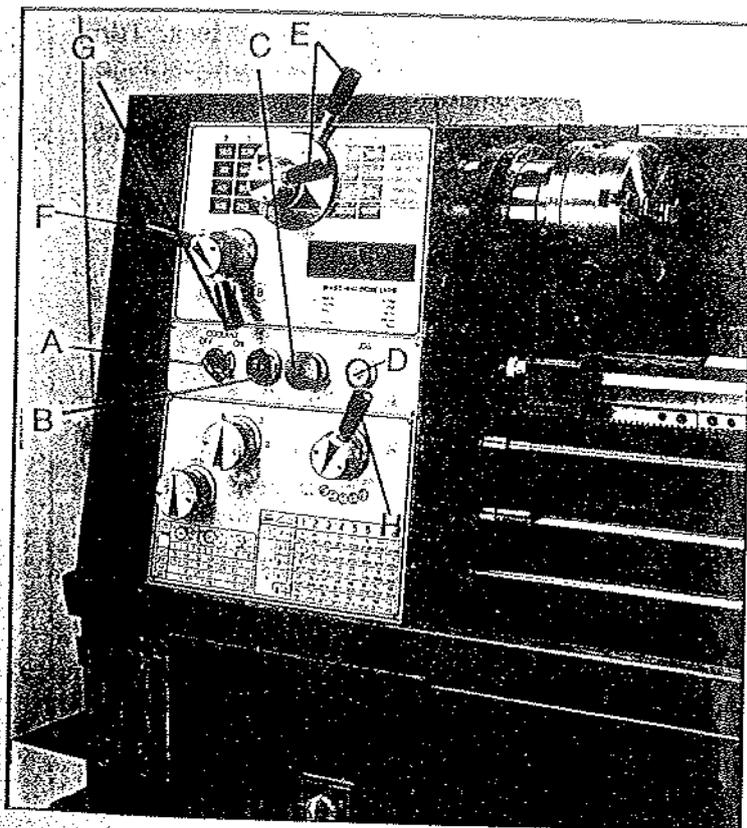

Fig. 10
A. Coolant On-Off Switch (A, Fig. 10) - turns coolant pump on and off.
B. Power Indicator Light (B, Fig. 10) - lit whenever lathe has power.
C. Emergency Stop Switch (C, Fig. 10) - depress to stop all machine functions. (Caution: lathe will still have power). Twist to re-set.
D. Jog Switch (D, Fig. 10) - depress and release to advance spindle momentarily.
### 2. Headstock Gear Change Levers (E, Fig. 10) - located on front of headstock at the top. Move levers left or right to desired spindle speed.
### 3. Leadscrew/Feedrod Directional Lever - (F, Fig. 10) - located on front of headstock. Moving the lever up causes carriage travel toward the tailstock. Moving the lever down causes carriage travel toward the headstock. Do not move lever while machine is running.
### 4. Feed/Lead Selector Lever (G, Fig. 10) -located on the front of the headstock at the top. Used whenever setting up for threading or feeding. Caution: in the "A" position, never run the lathe higher than 770 RPM.
### 5. Feed/Lead Selector Lever (H, Fig. 10) - located on the front lower right corner of the headstock. Used in setting up for feeding and threading. Positions "F" and "D" are for the feed rod. Positions "E" and "C" are for the feed screw. Position "0" is neutral.